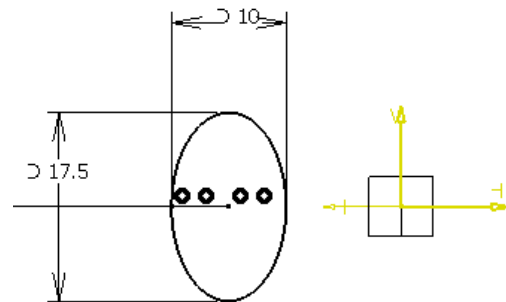

Figure 9-62 The sketch of the sweep profile for creating the second sweep feature
6. Draw the sketch of sweep profile, as shown in Figure 9-62.